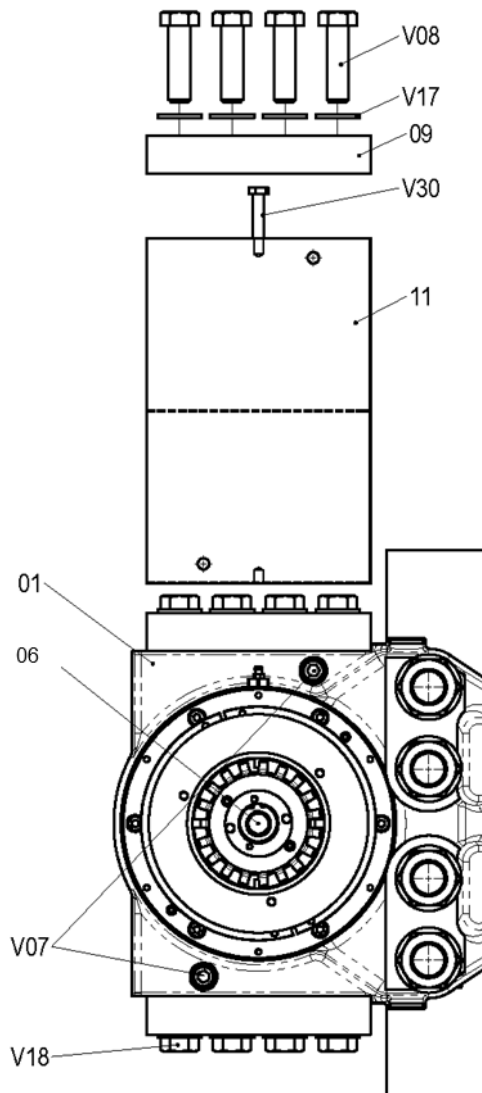

Fig. 5.6
4. Screw or unscrew using a wrench or socket on flats the wear take up screw **06** until the gap between the pad and the disc enables to put the new pad in position Fig.5.6 see chapter 5.3.